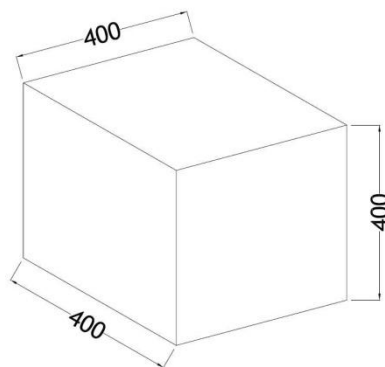

Fig 1
- Dig hole within sub-grade soil to the size shown in Fig 1, ensure that all sides and the bottom surface of the hole are trimmed and levelled accordingly